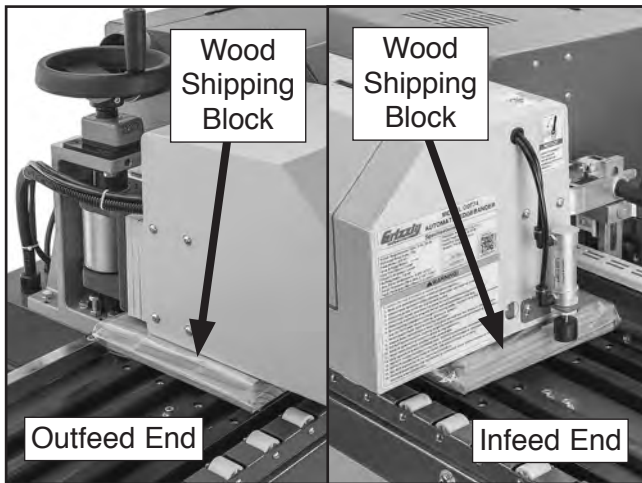

Figure 31. Location of wood shipping blocks to be removed.
13. Rotate panel feeder elevation handwheel clockwise to slightly raise panel feeder, then remove wood shipping blocks from infeed and outfeed ends of table (see **Figure 31**).